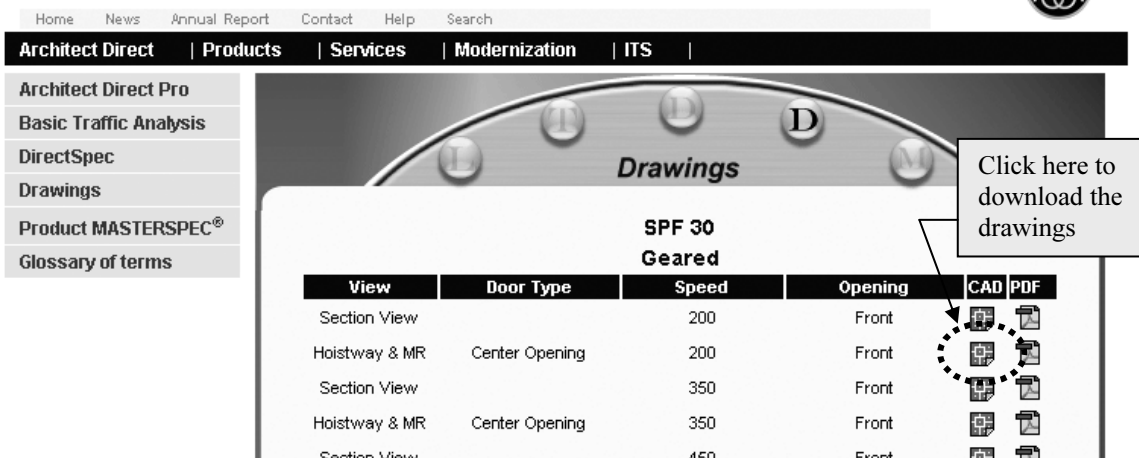

Figure 3-3.3 Elevator manufacturer’s website
7. Click the DWG icon next to **Hoistway & MR + 200** (speed) as shown in Figure 3-3.3.